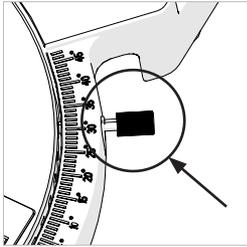

Fig. 12
- Loosen the Mitre Angle Locking Screw. (**Fig. 12**) This is found at the front RH side of the table near the 30° index mark.